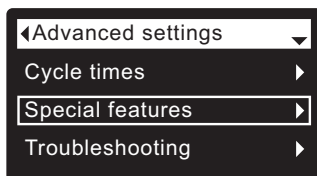

FIG. 80
3. Press the SELECT (O) button to display the Advanced settings menu (See Figure 80).